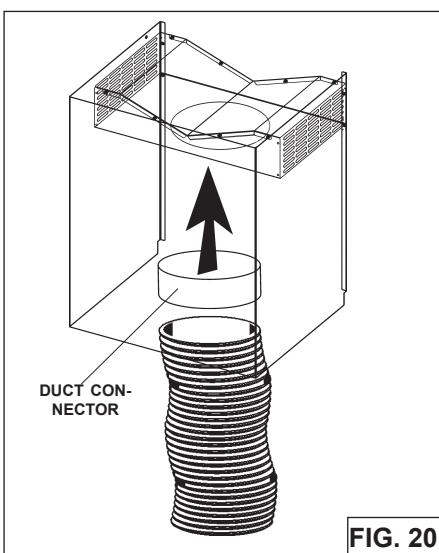

FIG. 20
4. Attach 6" expandable ducting to the plenum using the adapter and tape joints with aluminum duct tape (Fig.20).
7. Attach flex duct to plenum through the duct connector (Fig.20).
8. Attach upper flue to flue bracket using (2) 3.9 x 6mm flat head screws.